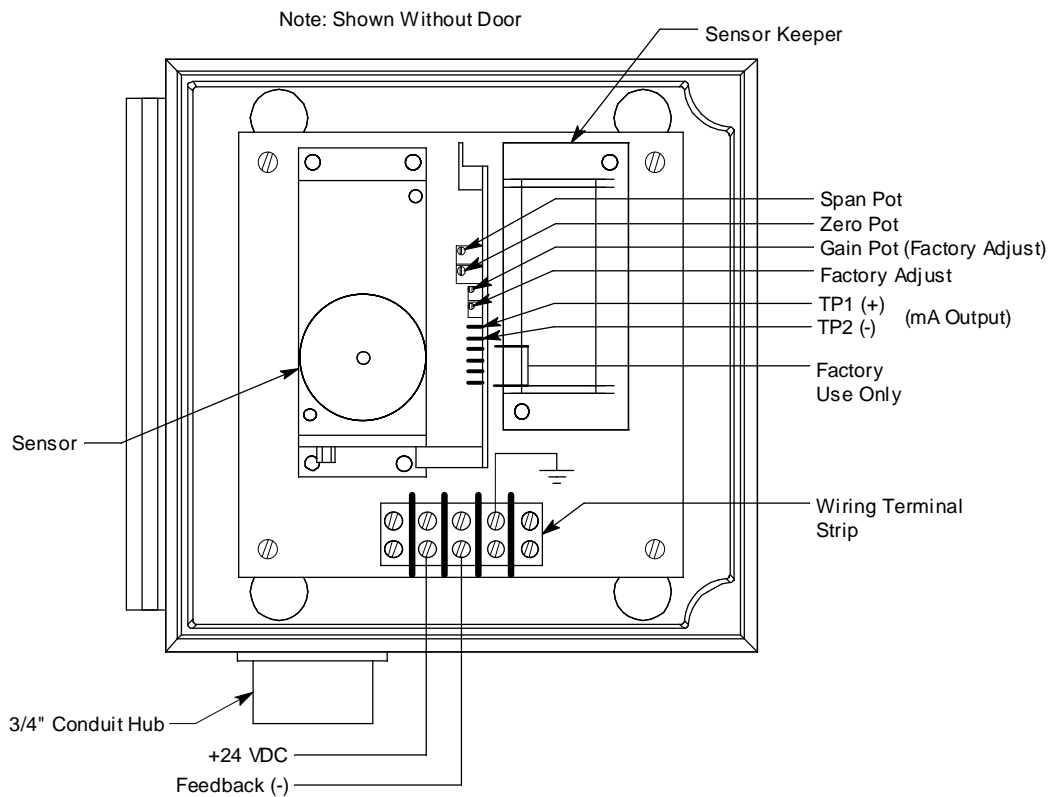

Figure 1: Component Location/Wiring
3. Use the conduit hub at the bottom of the GD-K8A4X for routing shielded cable into the enclosure. See Figure 1 for the wiring connections.